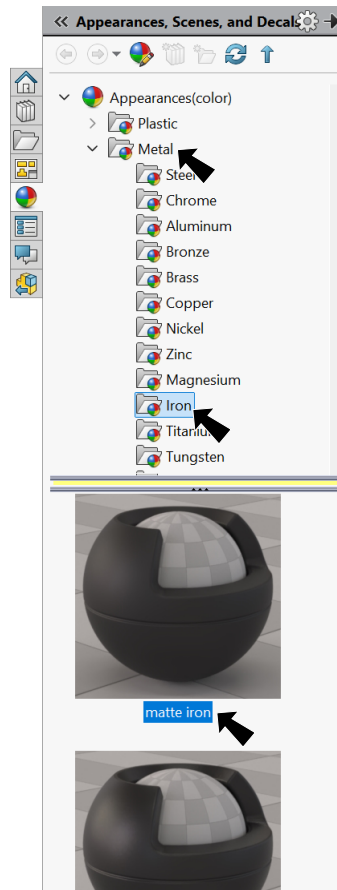

Fig. 45
Step 2. In the Appearances Task pane, expand **Metal**, click **Iron** and in the lower pane select **matte iron**, Fig. 45.